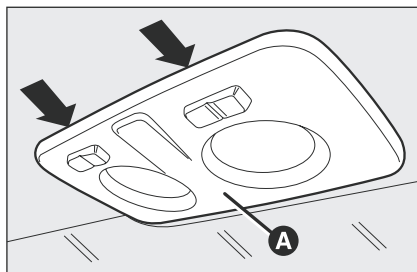
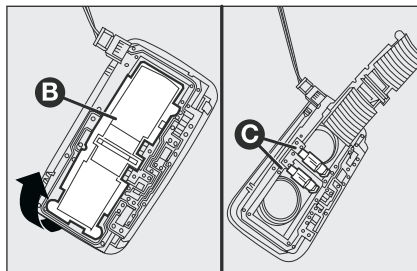

fig. 21
fig. 22
- work in the points shown by the arrows and remove light **A**-fig. 21;
- open the protection lid **B**-fig. 22;
- re-close the lid **B**-fig. 22 and secure light **A**-fig. 21 into its housing locking it properly.